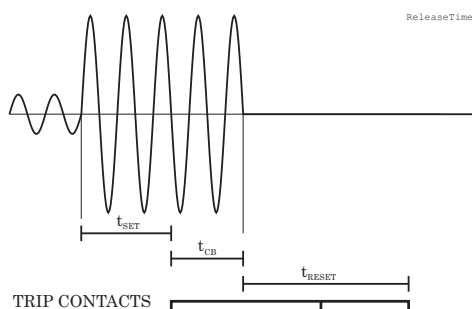

Figure 2.3-2. Reset time is the time it takes the trip or start relay contacts to open after the fault has been cleared.
Figure 2.3-2 shows an example of reset time i.e. release delay, when the relay is clearing an overcurrent fault. When the relay's trip contacts are closed the circuit breaker (CB) starts to open. After the CB contacts are open the fault current will still flow through an arc between the opened contacts. The current